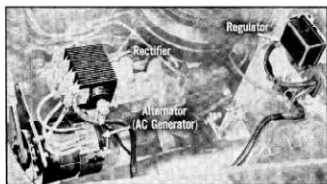

Fig. 52
4. Connect "F" wire and run engine for 15 minutes with regulator cover on at 1300 RPM. Cycle regulator by starting and stopping engine. Then check voltage reading which should be 7.0 to 7.7 volts at 1300 RPM (fig. 52). If necessary, adjust the voltage regulator to 7.4 volts preferred.